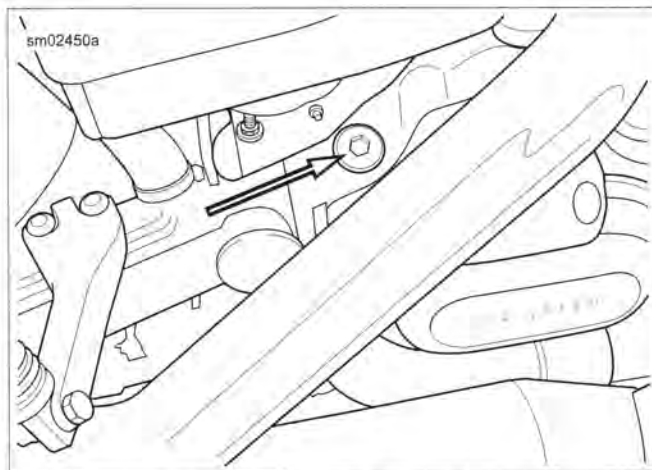

Figure 1-16. Transmission Dipstick Location
2. See Figure 1-16. Remove transmission filler plug/dipstick. Wipe dipstick clean.
1. See Figure 1-16. Remove transmission filler plug/dipstick.